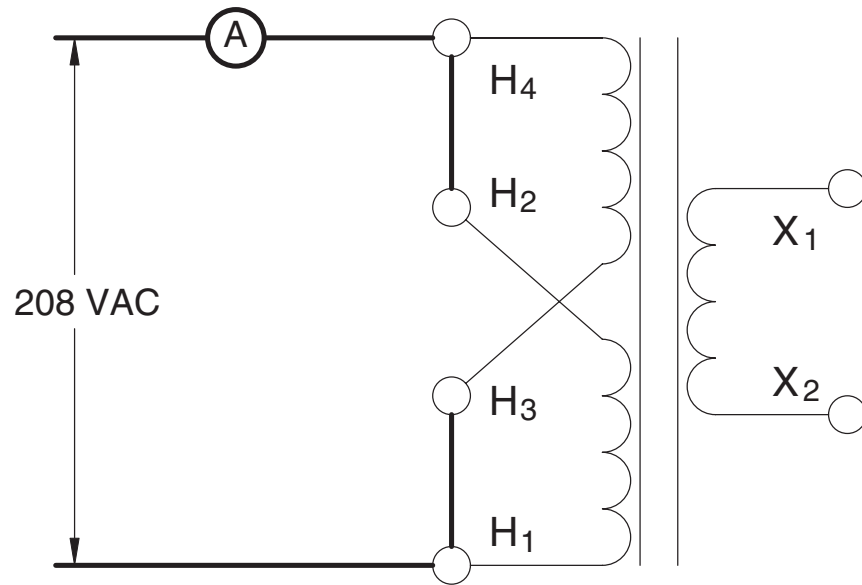

Figure 20-1 Connecting the high-voltage winding for parallel operation.
2. Connect the high-voltage winding to a 208 volt AC source with an AC ammeter connected in series with one of the lines, as shown in Figure 20-1.